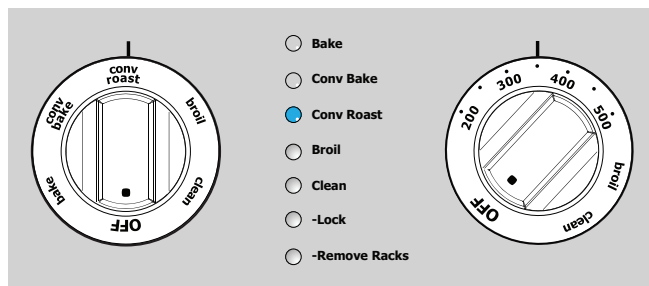

Figure 20: Convection roast selection
7. Turn the function dial to **conv roast**. The Conv Roast indicator light will flash (Figure 20)